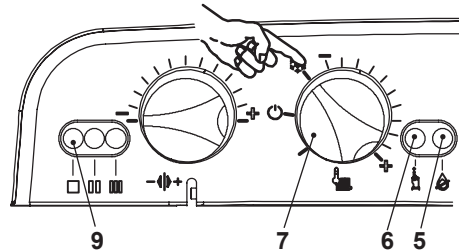

Fig. 7.7
- Turn the function selector 7 as in Fig. 7.7. The appliance operation light 9 will flash every 2 seconds.